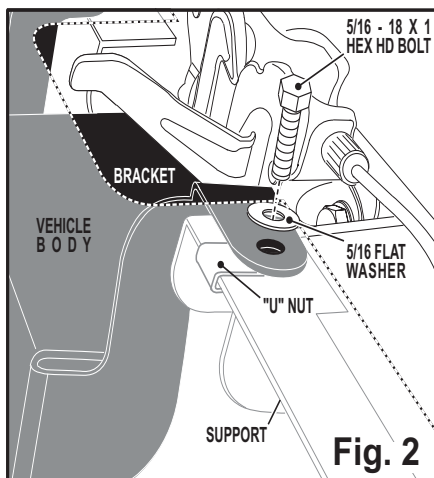

Fig. 2
3. Slide the 2 U-Nuts onto the support braces (under the body). Place the bracket (with speaker attached) on top of the U-Nuts. The front "ears" of the bracket rest on the two U-Nuts which clip onto the support braces. The rear of the bracket will mount behind the hood latch assembly using the hood latch mounting hardware (Fig. 2).